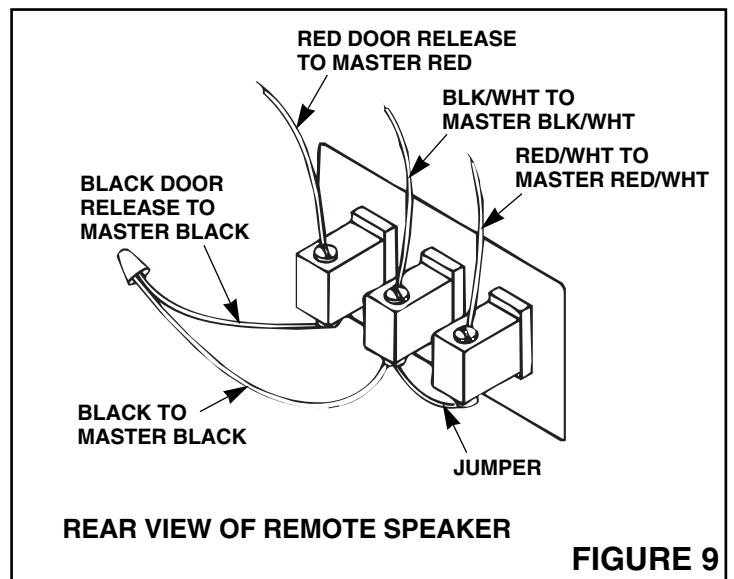

FIGURE 9
2. Make wiring connections at the Remote Speaker as shown in Figure 9.